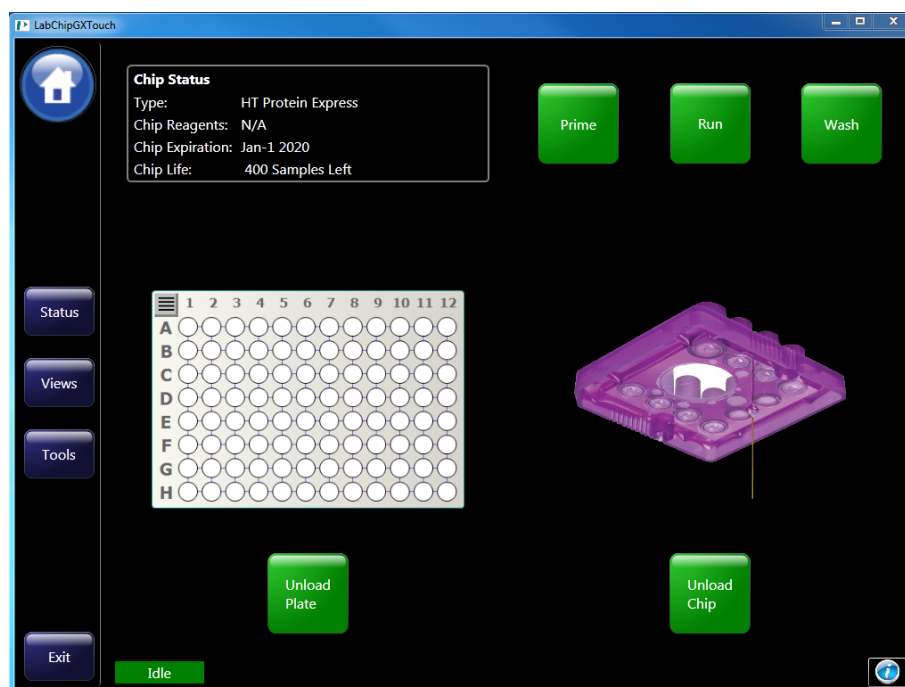
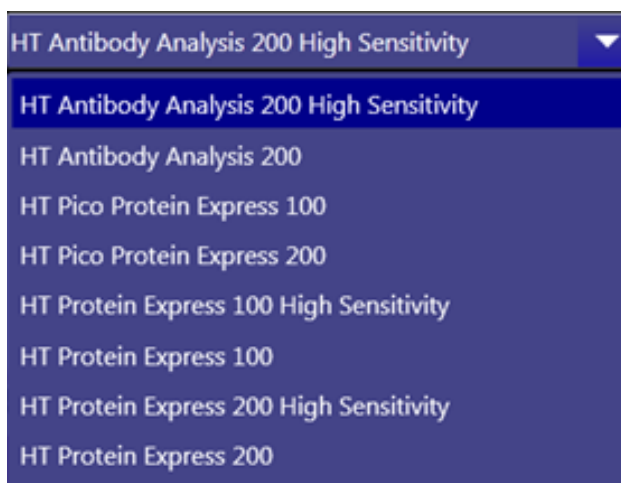
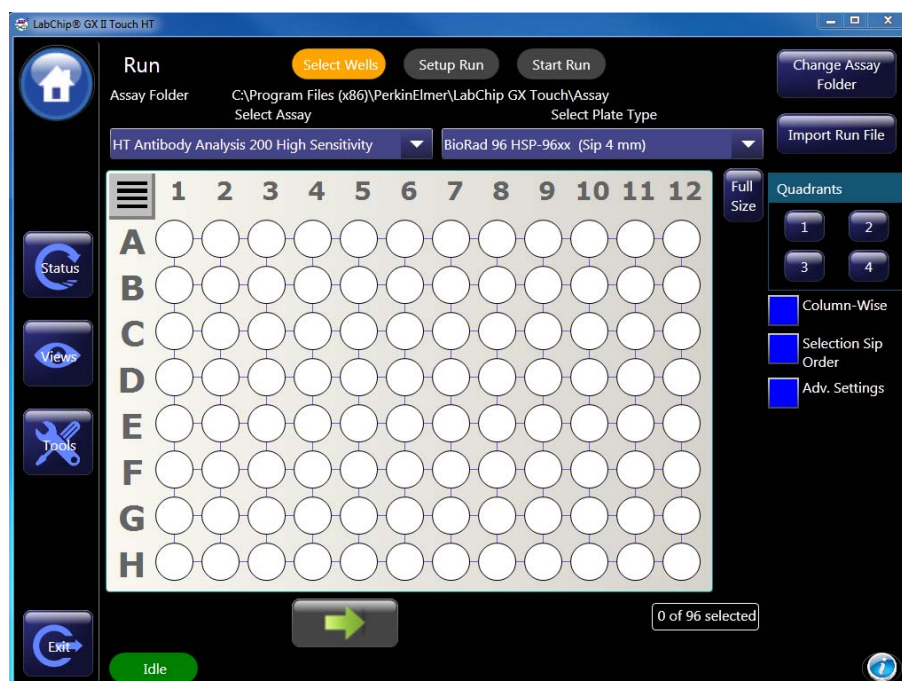

Figure 5. Home Screen
Figure 8. Assay List
Figure 9. Selecting Wells
- 5 Touch the *Load Plate* button on the *Home* screen (Figure 5) to retract the sample plate and move the sipper to the Buffer Tube. (For GXII, press the *Eject* button.)
Note: Chips can be primed independently from running assays on the LabChip GXII Touch instrument. Touch the Prime button on the Home screen (Figure 5). Select the desired assay from the Assay drop-down list (see Figure 8). Touch the Prime button on the Chip Priming screen. Make sure the Buffer Tube is placed on the instrument.
- 1 Touch/click the *Run* button (see Figure 5 on page 14).
- 2 Select the appropriate assay type (see Figure 8), plate name, well pattern, and whether to read wells in columns or rows. Select number of times each well is sampled under *Adv. Settings* (Figure 9). Touch the green arrow.